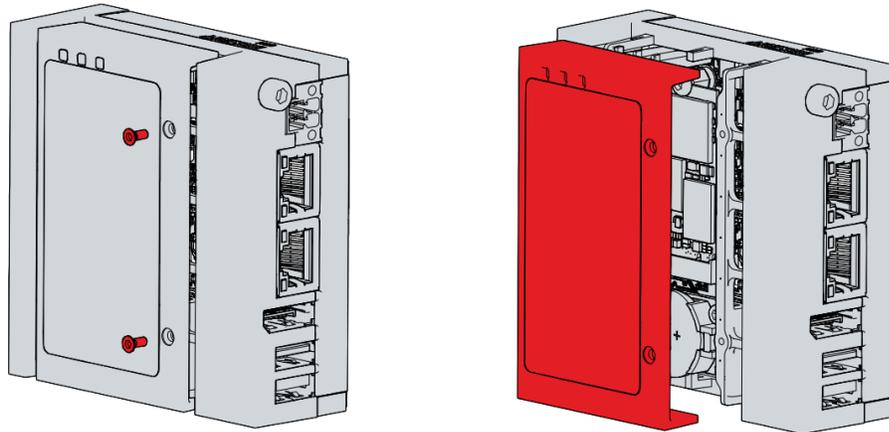
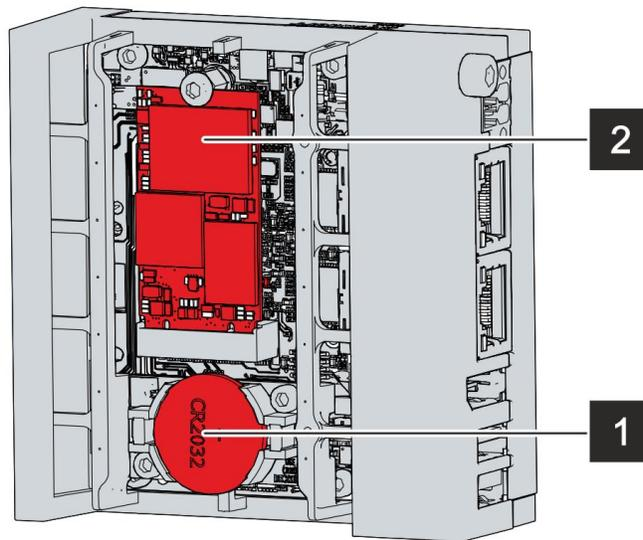

Figure 22. Access to battery and storage media
Figure 23. Battery (1) and Storage Media (2)
1. Before working on the PLC establish electrostatic discharge (ESD) protection to prevent damage to the device through electrostatic discharge. The replacement of device components without ESD protection can lead to functional impairment and destruction of the device. To gain access to the battery and the storage medium remove the cover on the left-hand side of the device by removing the two Torx TX6 screws as shown in **Figure 22**. With the cover removed the battery and storage media are shown in **Figure 23**.